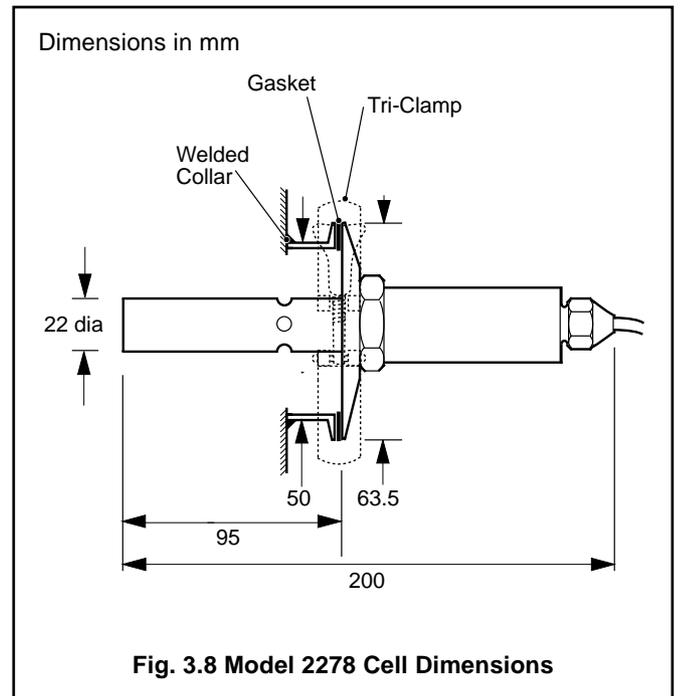

Fig. 3.8 Model 2278 Cell Dimensions
3.4.2 Model 2278 Cell Dimensions – Fig. 3.8